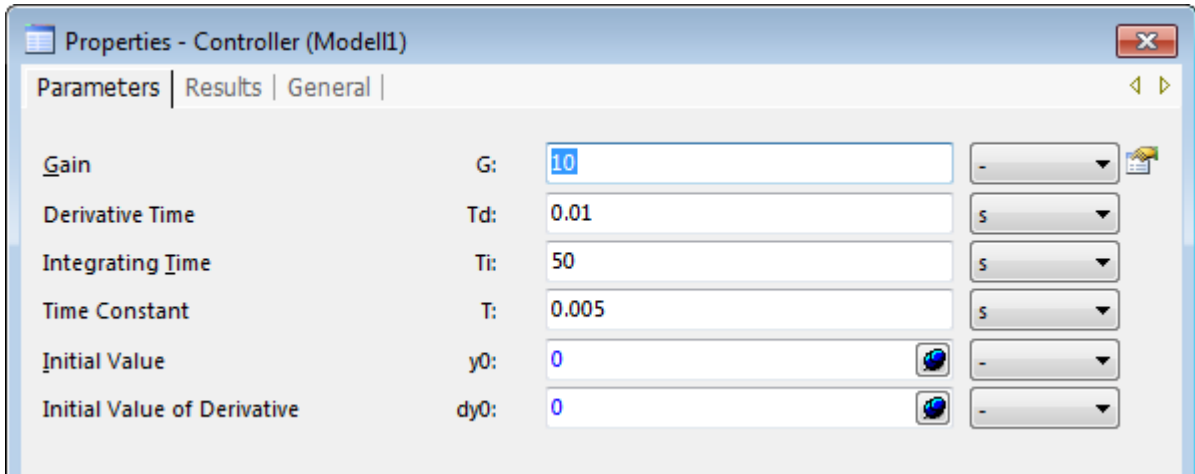

Figure 2: Property Dialog PIDs1-element controller
- Change the parameters of **Controller** as shown in Figure 2
- Change the value F: of **setValue** to **self.x** in Figure 2